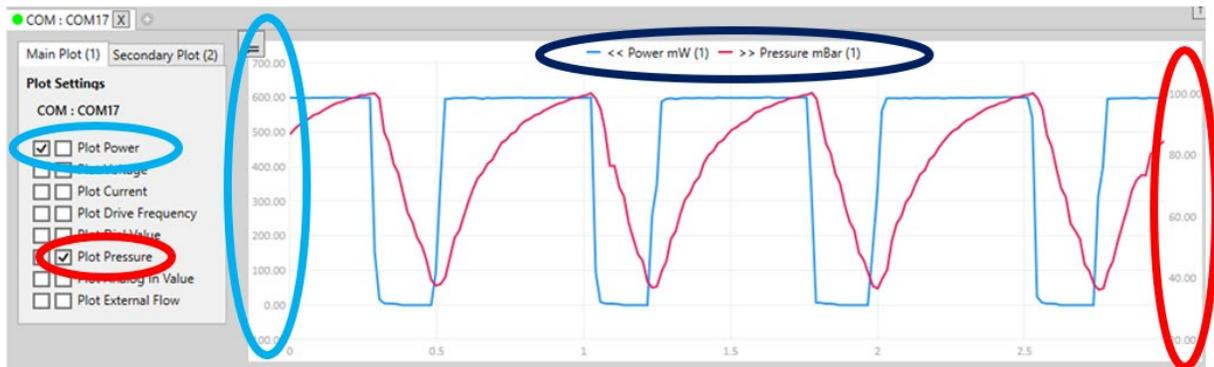

Figure 51. Plot with two axis. Plot power on the left Y axis in blue and pressure on the right Y axis in red.
- Tick the check boxes on the left to confirm the values to be plotted. The left most column of tick boxes corresponds to plotting the data on the left Y axis and the right hand column of tick boxes corresponds to plotting the data on the right Y axis (as shown in Figure 51).